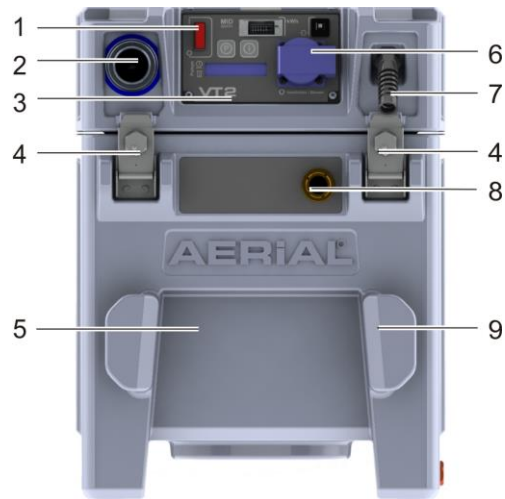

Fig. 1: AERIAL water separator series VT2 - overview
3. Ensure that the air tube has been connected to the connector for the compressor (s. page 5, Fig. 1, item 2) and to the air intake pipe on the compressor.
5. Switch on the water separator VT2 via the "On / Off" switch (s. page 5, Fig. 1, item 1). The following indication appears in the display: